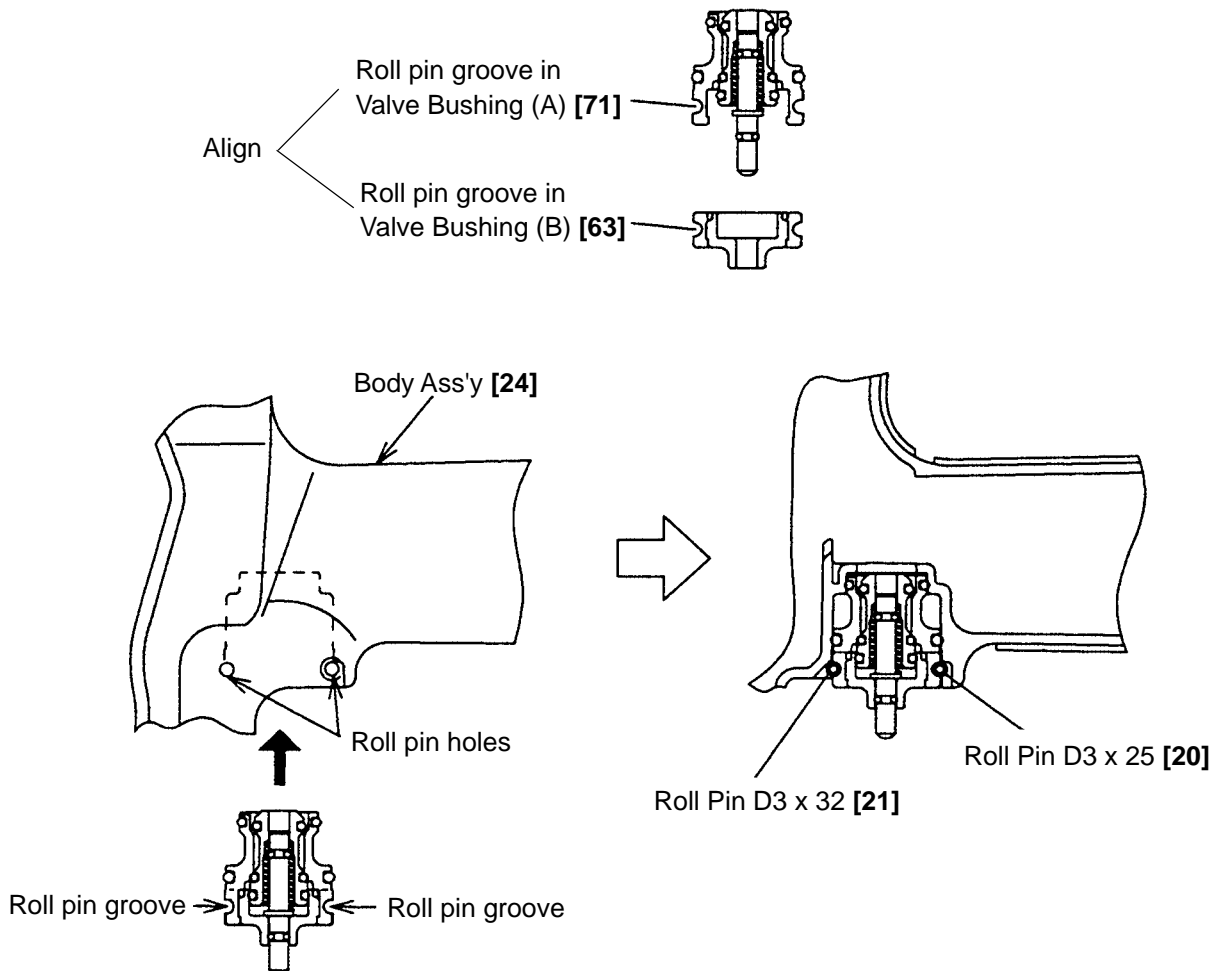

Fig. 18
- First, align the roll pin groove of Valve Bushing (A) [71] with that of Valve Bushing (B) [63] and reassemble the entire control valve unit as shown in Fig. 18. Then install the control valve unit so that the roll pin grooves in the control valve unit will be aligned with the roll pin holes in the Body Ass'y [24]. First, insert the roll pin puller (3 mm dia.) into the roll pin holes. Then, upon confirming that the puller passes through the hole, drive in the Roll Pins D3 x 25 [20] and D3 x 32 [21].